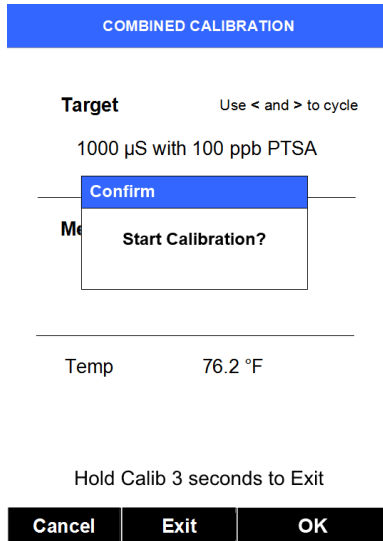

Figure 22
- 6) Ensure the Meter is filled with Combined Standard and press Calib labeled key (OK) to confirm the desired calibration.
- 7) A Confirmation popup will appear as in Figure 22.